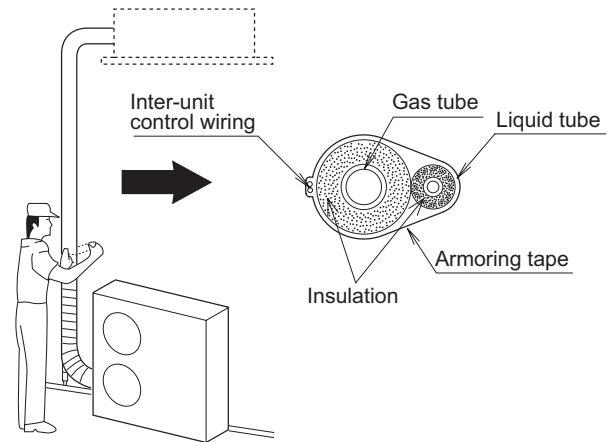

Fig.1-36
- (1) At this time, the refrigerant tubes (and electrical wiring if local codes permit) should be taped together with armoring tape in 1 bundle. To prevent condensation from overflowing the drain pan, keep the drain hose separate from the refrigerant tubing.
- (2) Wrap the armoring tape from the bottom of the outdoor unit to the top of the tubing where it enters the wall. As you wrap the tubing, overlap half of each previous tape turn.
- (3) Clamp the tubing bundle to the wall, using 1 clamp approx. each meter. (Fig. 1-36)